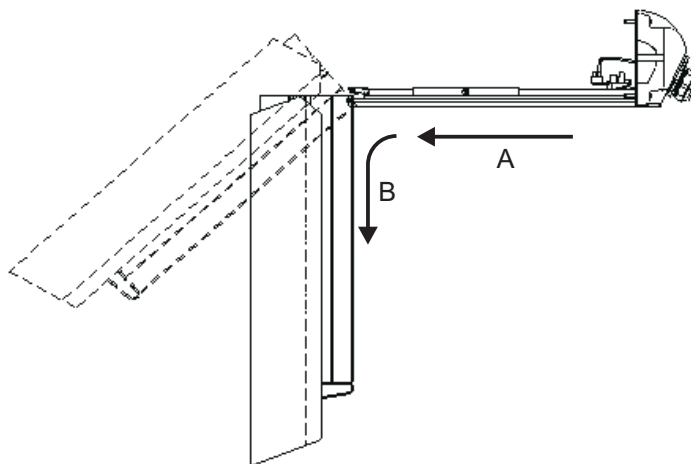

Fig. 1 Accessing the inside of the housing
3. Slide the housing body fully forward (A) and pivot downward (B) about the base plate hinges (see Fig. 1).
1. Open the housing as indicated in Fig. 1.